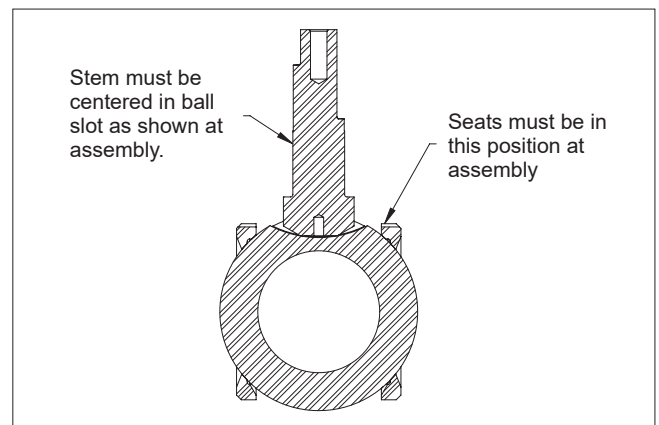
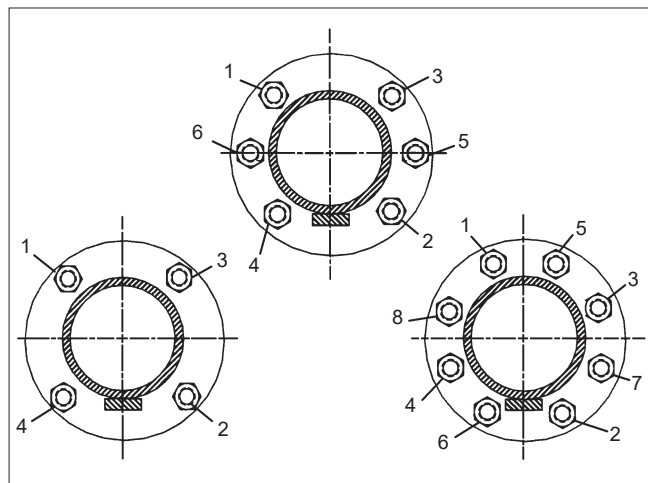

Figure 3. Proper Seat and Ball Orientation
Figure 6. Bolt Tightening Sequence
3. Carefully clean and polish the ball (3) sealing surface. It should be free of all scratches and grooves.
5. Secure body (1) with body joint opening facing up.
6. Slide one valve seat (7) sideways into the body (1) to below the stem bore, and tilt it into place so that the proper surface (see **Figure 3**) will be adjacent to the ball (3), being careful not to cut or scratch the seat.
11. Place the valve in a vertical position, body joint up, on a clean soft surface such as a folded rag or piece of cardboard. Insert bottom grounding spring (36) into the hole at the bottom of the stem (5). Insert the ball (3) rotating it onto the stem (5) in the closed position. If necessary, turn the stem blade to align with the ball slot. Make certain that the stem blade is in the middle of the ball slot; i.e. equal distance from the ends of the slot. Rotate the ball if necessary (see **Figure 3**).
12. Gently place the body gasket (65) into the machined recess of the body (1).
13. Place the remaining seat (7) on top of the ball with the proper surface adjacent to the ball (see **Figure 3**).
14. Place the body cap (2) over the body studs (12) being careful to properly orient the body cap and body as originally assembled by matching orientation marks made prior to disassembly. Take care not to damage body gasket (65) or seat (7) during this operation.
15. Lubricate the body stud threads and face of the nuts (16) with Never-Seez® or equivalent. Install nuts (16) on body studs (12) and tighten sequentially as shown in the diagram (see **Figure 6**), to the recommended torques as shown in torque chart (**Table 1**).
16. Place the indicator stop (32) with "BTM" facing down over the stem so that the longer part is over the body.
17. Place the spring (33) over the stem (5) with the larger diameter contacting the indicator stop (32).
18. Compress the spring (33) and hold down by putting the retaining ring (34) in the groove in the stem (5).